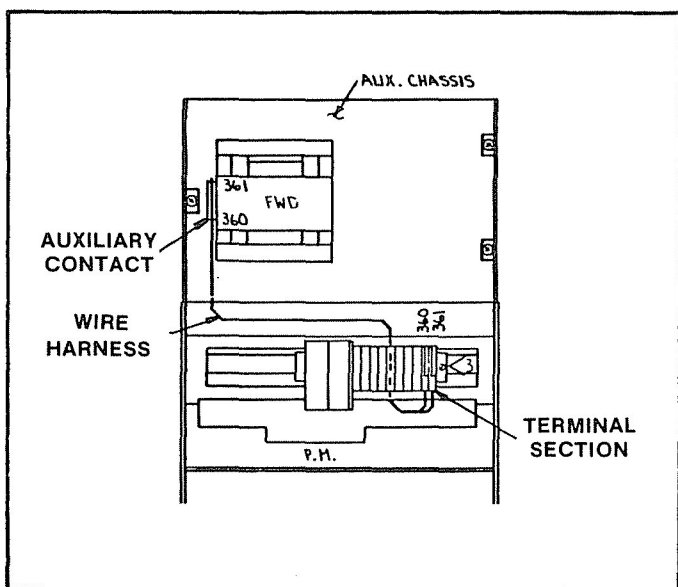

Figure 3 — 3-40 hp @ 460VAC, 15-20 hp @ 230VAC Unidirectional Auxiliary Contact Kit Installation
4. Mount auxiliary contacts to contact or contactors as shown in Figure 3 & 4 with hardware supplied.